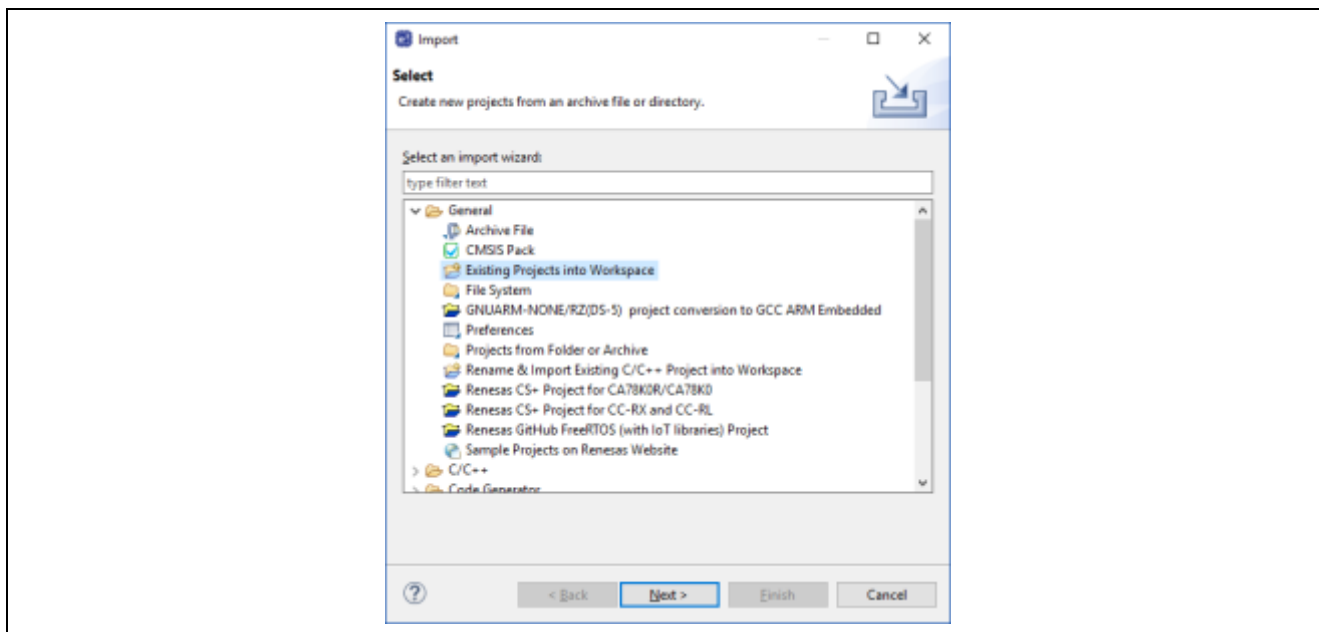

Figure 4-3. Import sample project (1)
4. Double-click General and select Existing Projects into Workspace as shown in Figure 4-3: